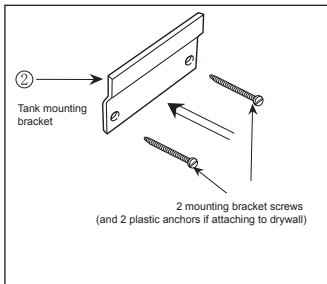

Figure 1
- 1: Tank mounting bracket is fixed on the wall, as shown in Figure 1.